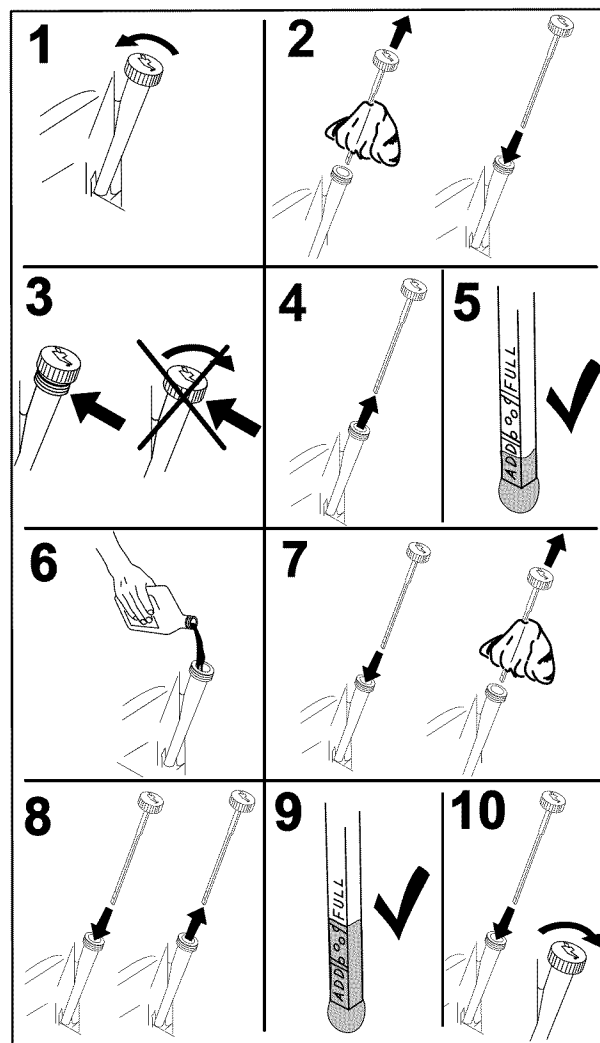

Figure 28
4. Stop the engine, remove the key, and wait for all moving parts to stop before leaving the operating position (Figure 28).